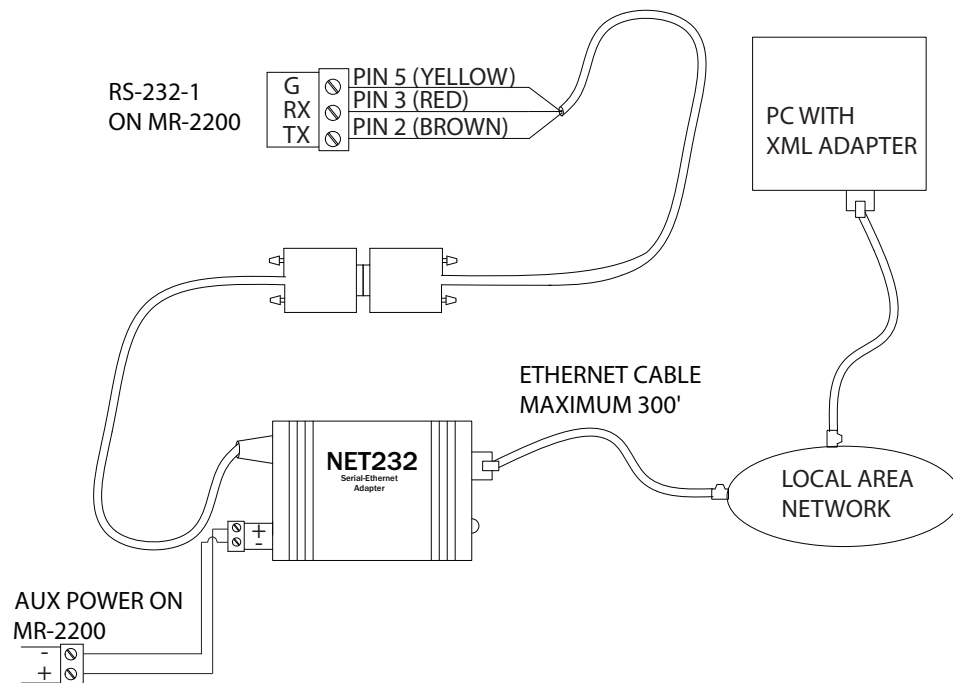

Figure 1 Connecting the NET232 adapter to the MR-2200
2. Connect the three wires on the modified RS-232 cable to the RS-232-1 port on the MR-2200. See Figure 1.
Note: If the colors of the wires do not match the colors in Figure 1, use a multimeter to check the pins.